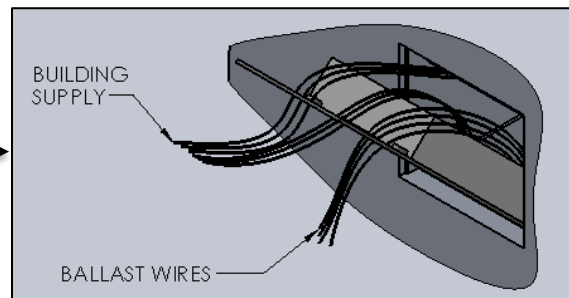

FIG. 17- DETAIL SHOWING BUILDING SUPPLY AND
10. Make BUILDING SUPPLY wire connections and tuck them into the top section of the box leaving the DRIVER WIRES out as shown in FIG. 17. Make all wire connections in the inside the junction box (by others) in accordance with the NATIONAL ELECTRICAL CODE and all applicable LOCAL AND STATE CODES.